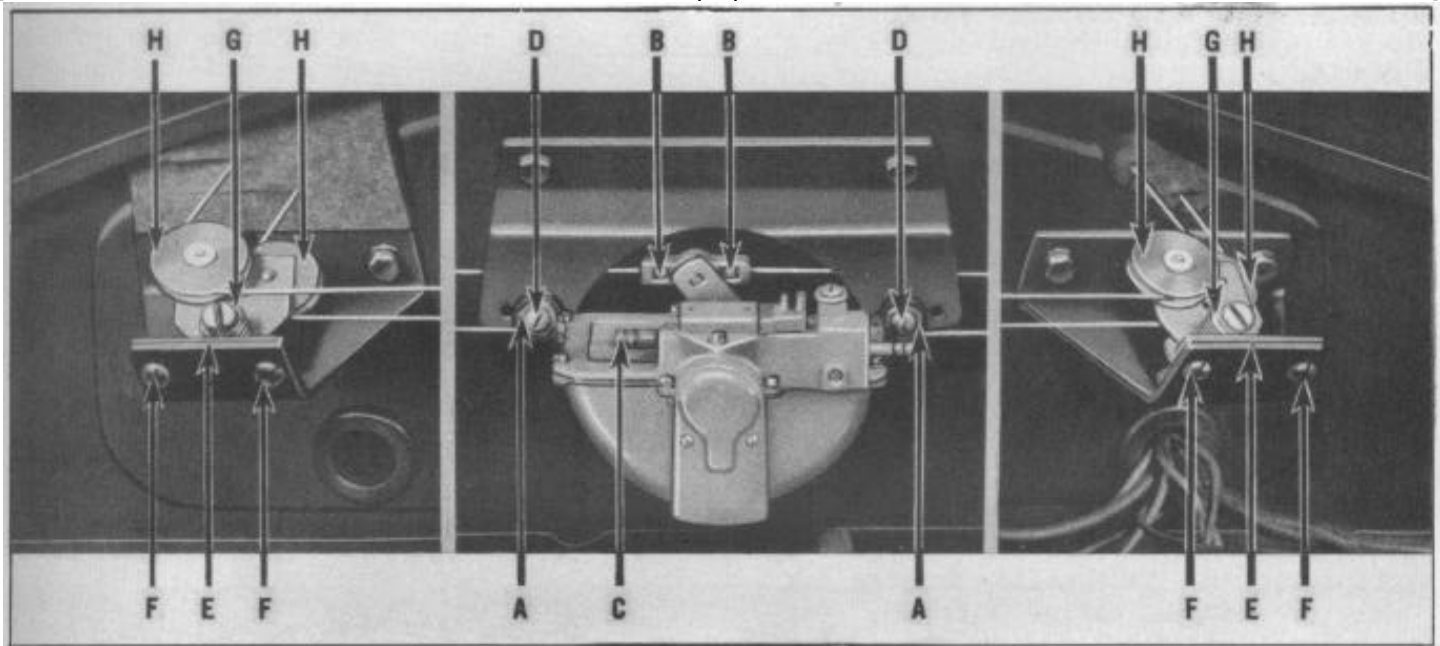

FIGURE 33
1. Disconnect pulley cables from the wiper motor at (B), Figure 33.
4. Remove two bolts (D) attaching wiper motor to mounting bracket and remove motor.
Cable tension pulley assemblies (E), Figure 33, are mounted under the hood on the right and left side of the dash panel. These cable tension pulley assemblies are spring loaded to maintain approximately 14 pounds tension in the cables.
1. Disconnect cables from wiper motor at B, Figure 33, and lift cables free from pulleys.
2. Remove two screws (F) attaching assembly to support bracket and remove assembly.